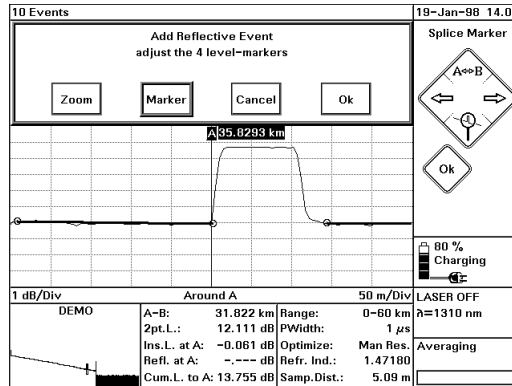

Figure 40 Level-markers for analyzing insertion loss
Level markers You now see 4 level-markers on the trace, and a message asking you to adjust them (Figure 40). These four level-markers allow you to analyze the Insertion Loss.
- 3 You now see 4 level-markers on the trace, and a message asking you to adjust them (see Figure 40).